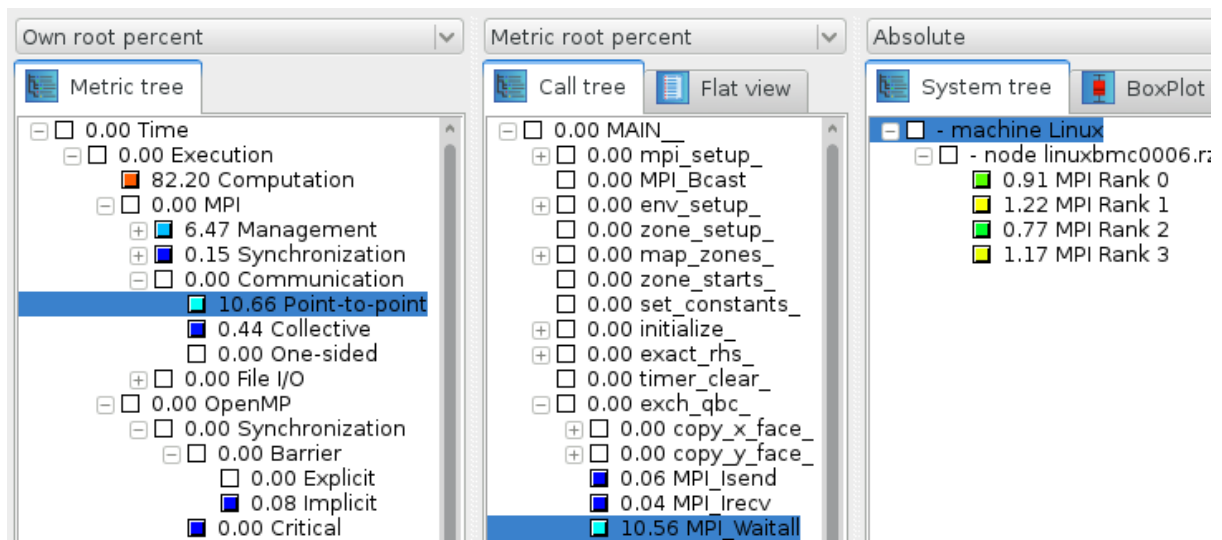

Figure 4: Time spent in communication (Cube)
- a) 11.10% of the execution time of the application is spent for MPI communication (see Figure 4). Almost all the time is consumed in the MPI.Waitall operation (10.66%). In this time the unblocked data transfer run and the processes waited for each other at the end of the transfer until all processes became their data.